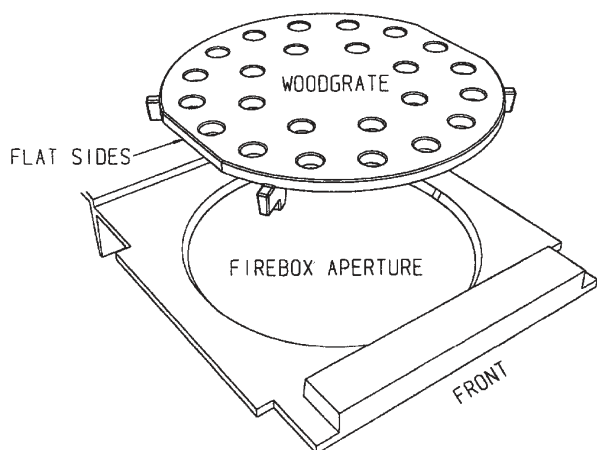
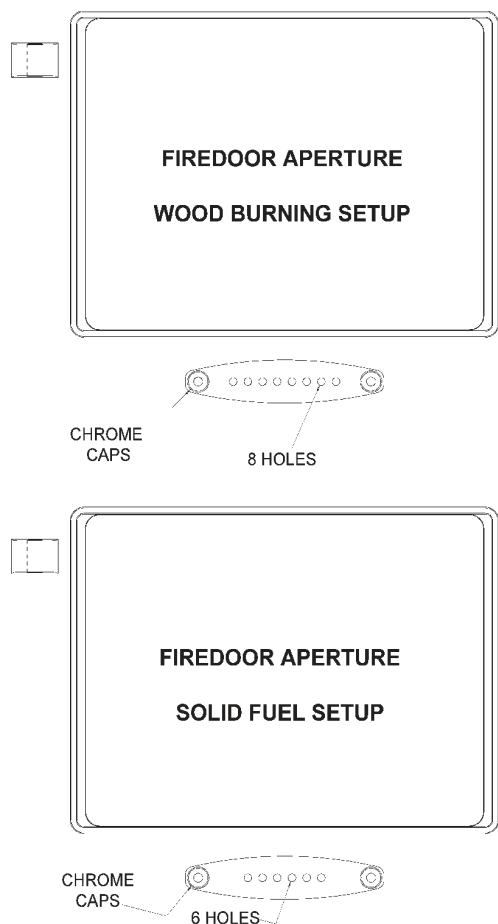

Fig. 6A
Fig. 6
Two bottomgrates are available for use. One has a slightly raised centre and a serrated edge (See Fig. 6). This is for burning coal and manufactured briquetted smokeless fuel. The other is flat with a number of round holes (See Fig. 6A). **This is for wood burning only.**
To fit the wood grate, open the fire door and insert the grate through the door opening with the four legs facing downwards and the flat edges of the grate facing left and right. (See Fig. 6A).
1. Engage the curved end of the grate assembly removal tool, within the groove in the centre of the bottomgrate support, (See Fig. 6).